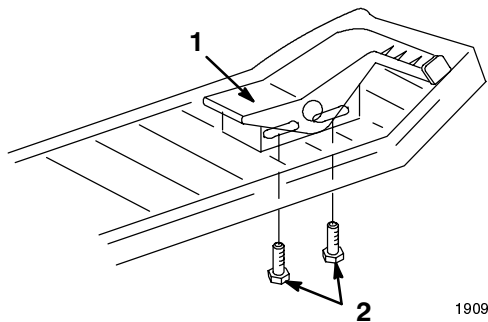

Figure 4
After adjusting the hydro neutral position, it is necessary to check the traction control pedal. Shut the engine off. Press the control pedal full forward and full reverse. The Transaxle linkage must contact the stop(s) before the control pedal hits the footrest pad (Fig. 4). If contact is made with the foot pad, before hitting stop(s) on transaxle, in either forward or reverse directions, adjustment is required.
1. Loosen the capscrews below the right footrest. Slide the pedal in the slots away from the direction that made contact with the footrest (Fig. 4).